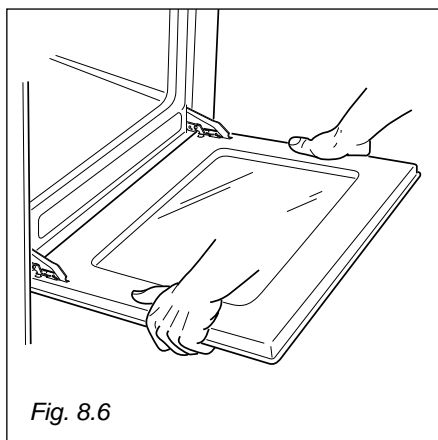

Fig. 8.6
- Grip the door (as indicated in fig. 8.6) and, while closing it, release the two hinges as shown in fig. 8.7.